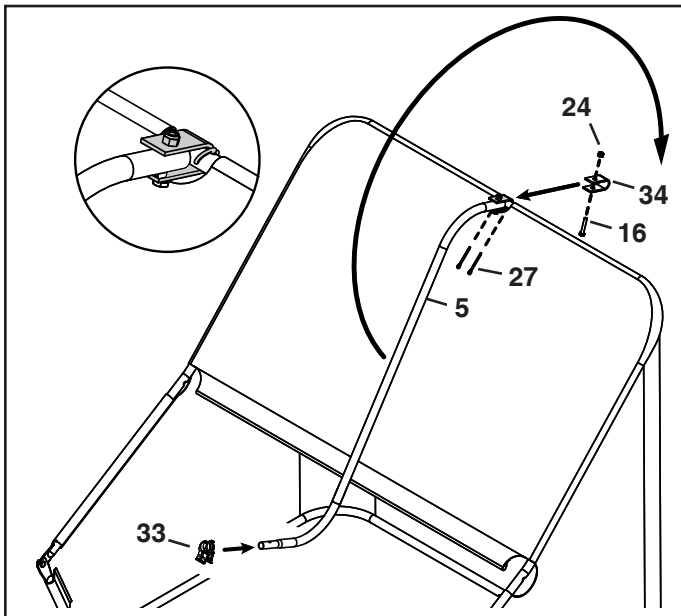

FIGURE 14
**STEP 14: (SEE FIGURE 14)**
- Install two cotter pins (27) in the rear hopper tube. Bend ends of cotter pins around tube.
- Slide the dump handle clip (33) onto the dump handle.
- Attach the dump tube to the rear hopper tube using a U-clamp (34) placed between the cotter pins, a 1/4" x 1-1/2" hex bolt (16) and a 1/4" nylock nut (24).